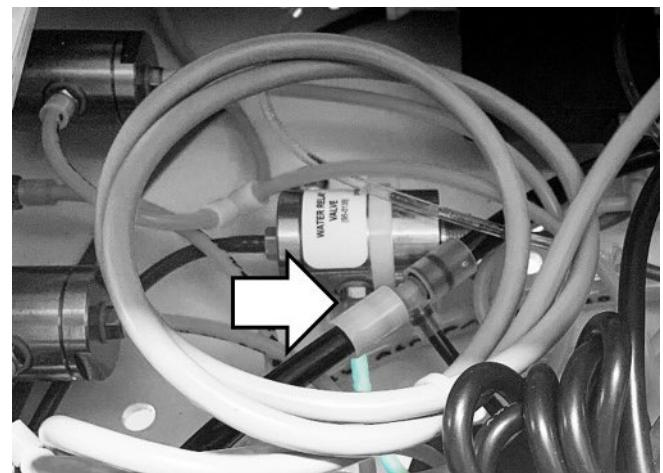

Fig. 1
- 3 Locate the water relay next to the large 5-position control block. Cut the blue tubing coming from the side port on the water relay going to the 5-position control block. (Fig.1)